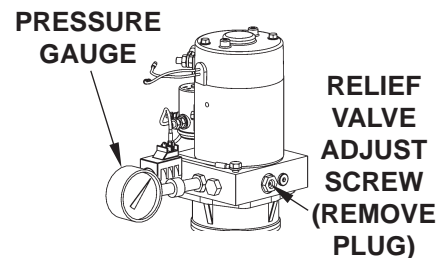

FIG. 50-2
9. With platform on the ground, remove the pressure hose and fitting from the pump and replace it with a 0-4000 PSI pressure gauge. Hold the control switch in the "RAISE" position. Adjust the relief valve on the side of the pump until the gauge shows 3250 PSI (FIG. 50-2). Remove gauge and reinstall pressure hose.